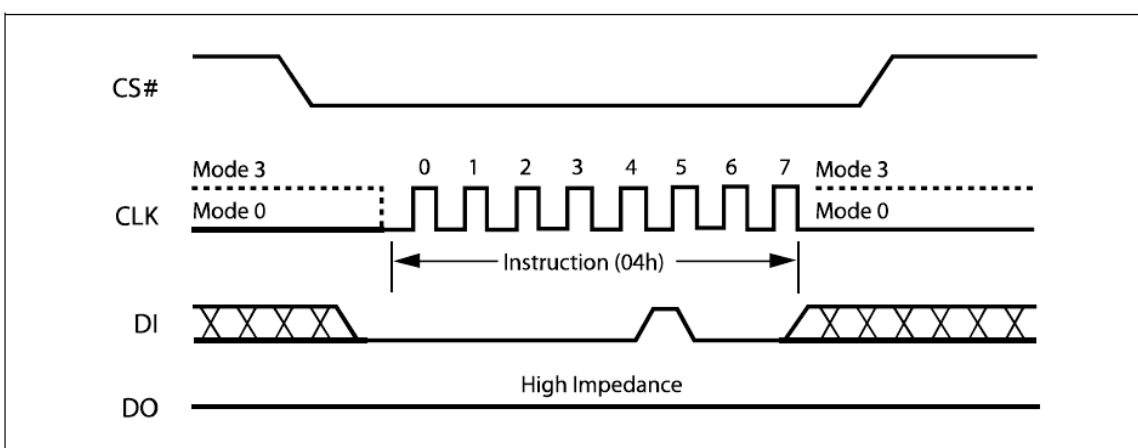

Figure 7. Write Disable Instruction Sequence Diagram
The Write Disable instruction (Figure 7) resets the Write Enable Latch (WEL) bit in the Status Register to a 0 or exit from OTP mode to normal mode. The Write Disable instruction is entered by driving Chip Select (CS#) low, shifting the instruction code "04h" into the DI pin and then driving Chip Select (CS#) high. Note that the WEL bit is automatically reset after Power-up and upon completion of the Write Status Register, Page Program, Sector Erase, Block Erase (BE) and Chip Erase instructions.